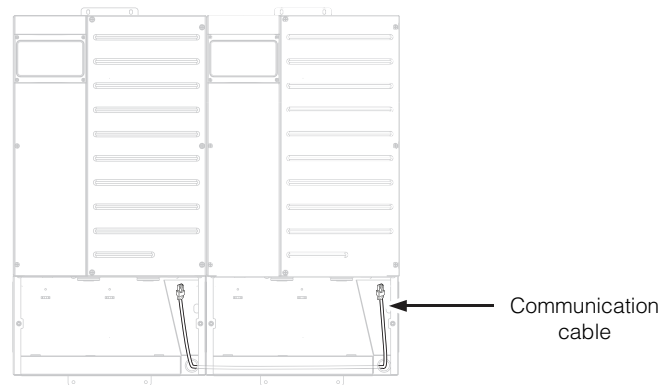

Figure 4-6 Installing the AC sync and Xanbus cables
- Route the cable as shown in Figure 4-6. Route any additional communication cables through the raceways. Replace the wiring raceways, ensuring not to pinch the cables. Secure the raceways to the Conduit Box with the screw that was removed earlier.